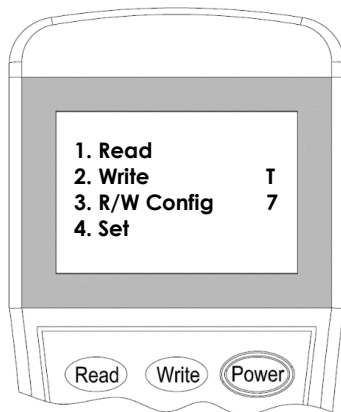
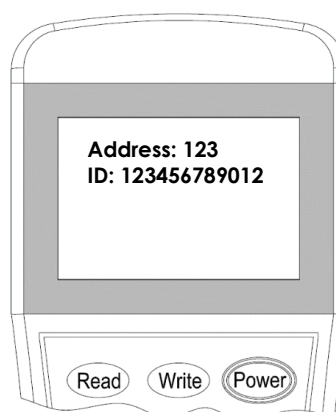

Figure 7
Figure 8
2. Switch-on the programmer, then press button **"Read"** or **"1"** to enter to Read mode (Figure 7). The programmer will display the configuration after few seconds. (Figure 8).